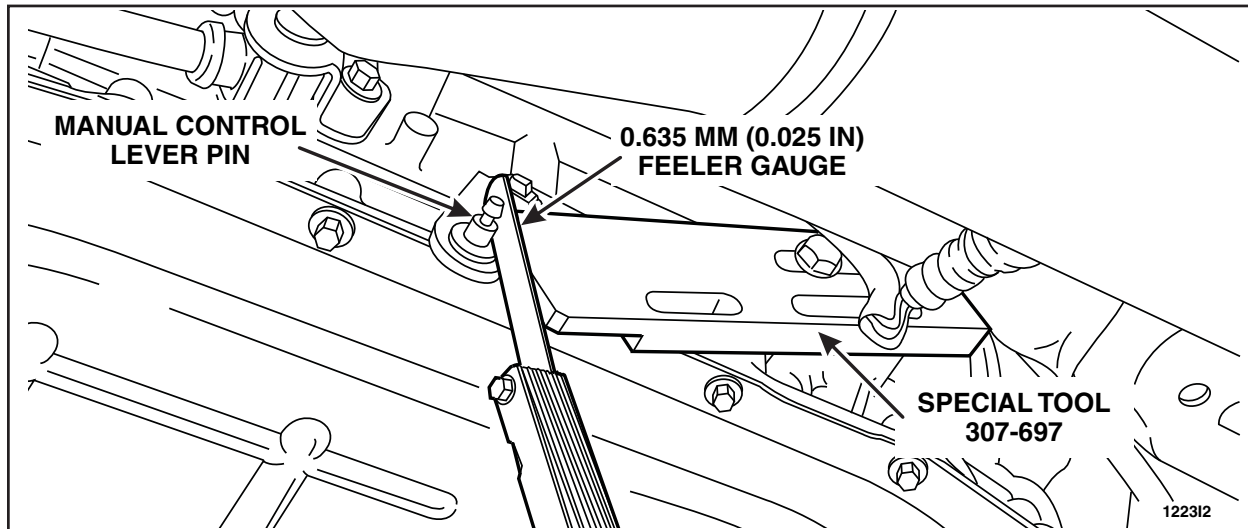

FIGURE 3
10. Install a 0.635 mm (0.025 in) feeler gauge between special tool 307-697 and the manual control lever pin. See Figure 3.